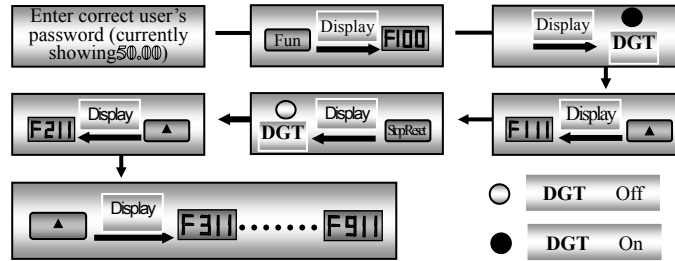

Fig 2-2 Switch over in a Code Group or between Different Code-Groups
e.g. when function code shows F111 and DGT indicator is on, press “▲”/“▼” key, function code will keep increasing or decreasing by degrees within F100 ~ F160; press “stop/reset” key again, DGT indicator will be off. When pressing “▲”/“▼” key, function codes will change circularly among the 10 code-groups, like F211, F311...FA11, F111..., Refer to Fig 2-2 (The sparkling “50.00” is indicated the corresponding target frequency values).